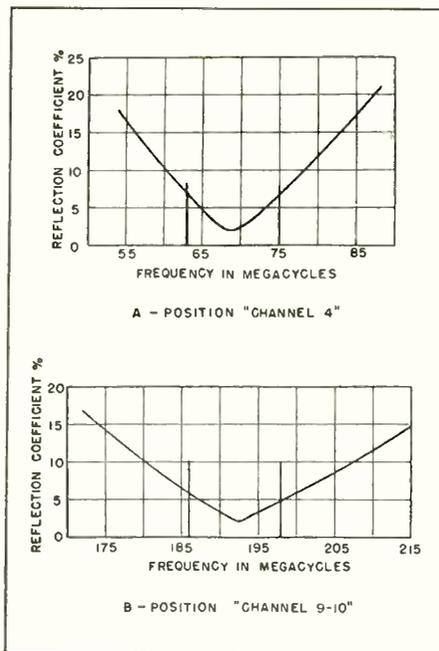
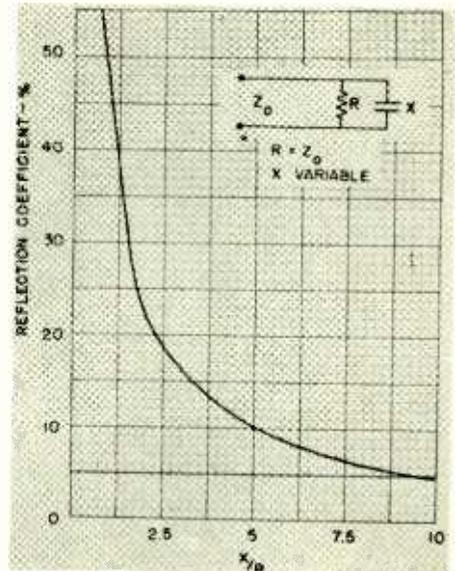

Fig. 16: Reflection coefficient of balanced noise generator for 300-ohm line
Fig. 17: Graph of reflection coefficients of shunt reactance across generator output
The reflection coefficient versus frequency for a 300-ohm line terminated by the noise generator is plotted (solid lines) in Fig. 16 for positions "Channel 4" and "Channels 9-10" of the selector switch. Fig. 17 is a plot of the calculated reflection coefficient versus the ratio (X)/(R) of the shunt reactance to load resistance which terminates the transmission line. The resistance R is constant and is equal to the characteristic impedance of the line, Z_0 . With the aid of Fig. 17 the shunt reactance across the generator output, at any frequency, can
be determined from the reflection coefficient. As an example, in Fig. 16a, the minimum reflection is 2% at 69 MC. However, at 88 MC the reflection coefficient is 21%. From Fig. 17, a reflection coefficient of 21% corresponds to $X/R = 2$, or for a 300-ohm line $X = 600$ ohms. This method can also be used to check the plate-to-filament capacity of the diode, as well as other circuit capacities.
To eliminate the above sources of error in noise factor measurement the noise generator output circuit covers only two television channels for each switch position. The generator shunt reactance within this narrow frequency range is sufficiently high to have negligible effect on the noise factor readings. From Figs. 16 and 17 the reactance at the limits of a 12-MC bandwidth is calculated to be approximately 2400 ohms. On either of the two channels within this 12 MC bandwidth, the maximum error from this source is less than 0.35 db, for any length of transmission line and for complete mismatch at the receiver. (Assuming negligible transmission-line loss).